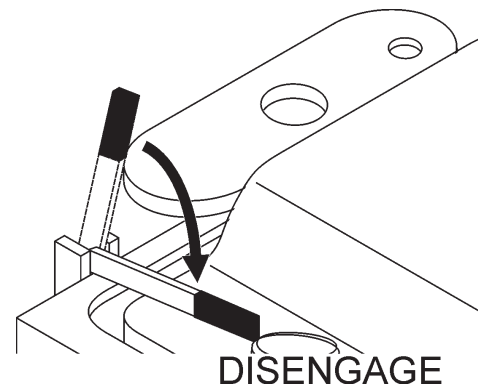

Figure 46. Transmission Engage/Disengage Lever (Disengage Position)
1. Place the **transmission engage/disengage lever** in the **DISENGAGE** position (Figure 46).